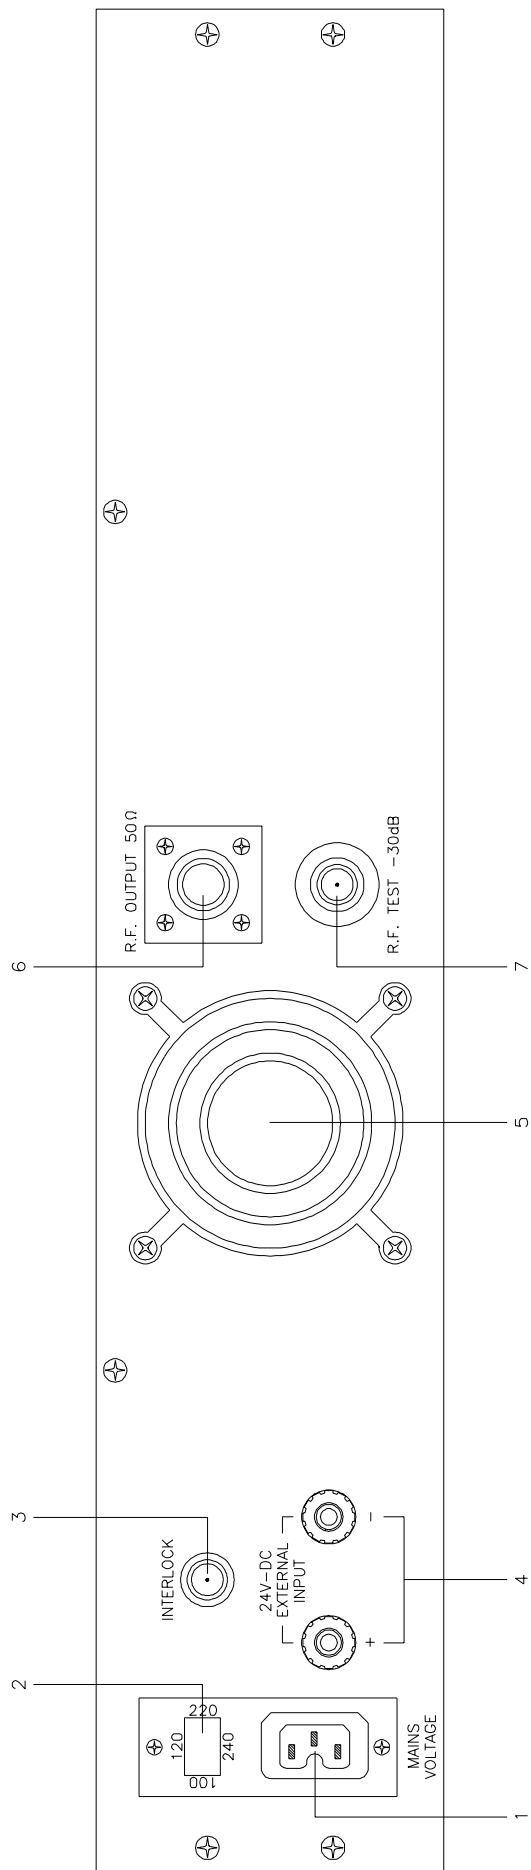

FIG. 2A
1) Check on the rear panel that the line voltage selector is correctly set for the local supply. If not, remove the cover (2 Fig.2A-2B) on which the voltages are printed and rotate it until the required value corresponds to the arrow, and reinsert it.
3) Connect R.F. output connector (6 Fig.2A-2B) to antenna cable.
5) Connect line power to the unit via the VDE socket (1 Fig.2A-2B), switch on the equipment through power selector (9 Fig.1A and 8 Fig.1B).
- 2) Connect a dummy load with a ~~power rating~~ **SETUP 1** of at least 20 W continuous to the RF output (5 Fig.2A and 2B), situated on the rear panel of the unit (SETUP 1).
- 3) Connect a switch, via a cable, to the INTERLOCK connector (3 Fig.2A and 2B) on the rear panel so that the switch is able to short the central conductor to its screen. Leave the switch in the short-circuit position.